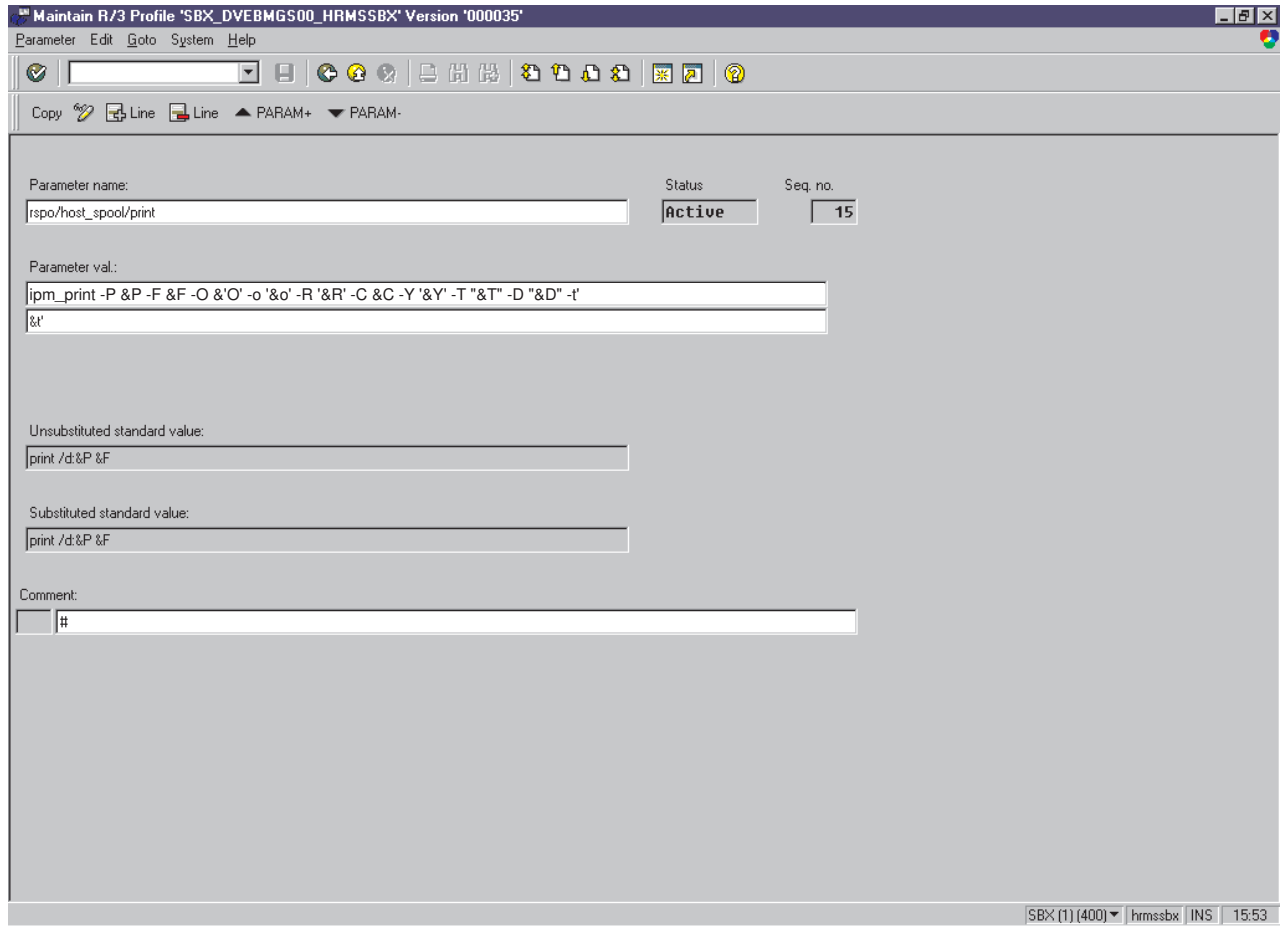

Figure 34. Maintain R/3 Profile Print Profile window
2. Select the **Extended maintenance** radio button and click the **change** button to access the **Maintain R/3 Profile *print_profile*** window shown in Figure 34 on page 87.